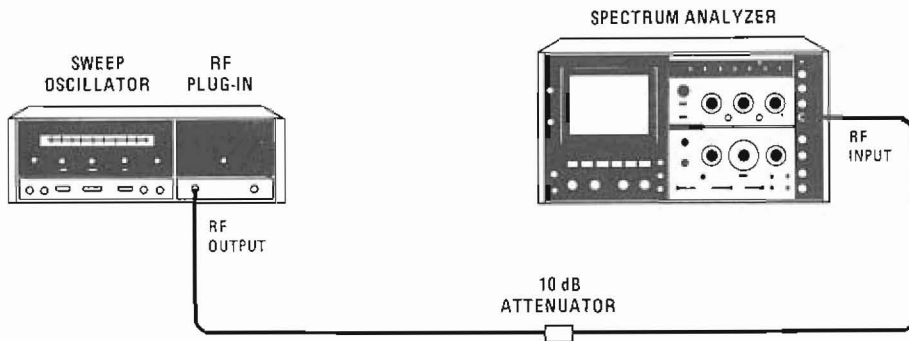

Figure 4-3. Residual FM Test Setup
- a. Connect equipment as shown in Figure 4-3.